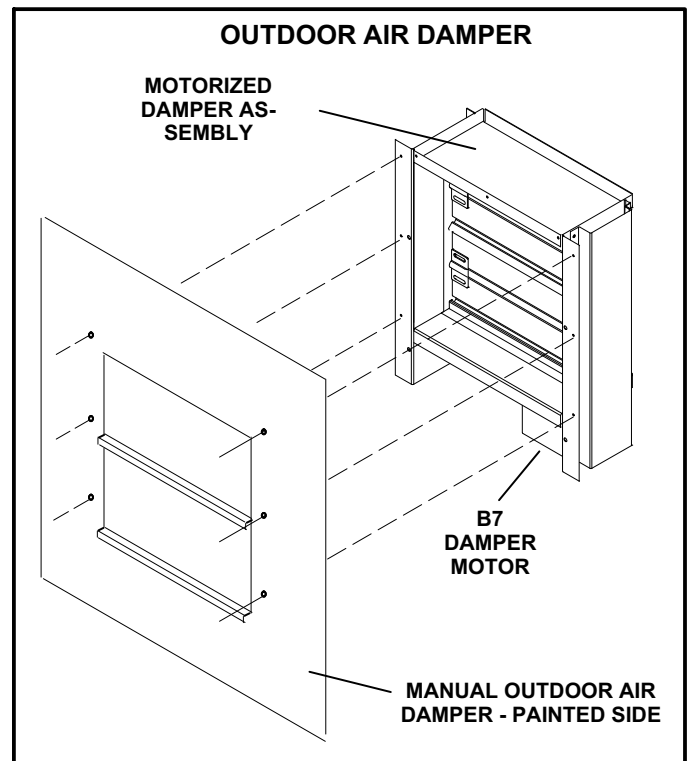

FIGURE 21
See Optional Accessories at the front of this manual (Table of Contents) for sizes per KCB units. Outdoor air dampers may be manually or motor (M) operated to allow up to 25 percent outside air into the system at all times (see figure 21). Washable filter supplied with the outdoor air dampers can be cleaned with water and a mild detergent. It should be sprayed with Filter Handicoater when dry prior to reinstallation. Filter Handicoater is R.P. Products coating no. 418 and is available as Part No. P-8-5069.